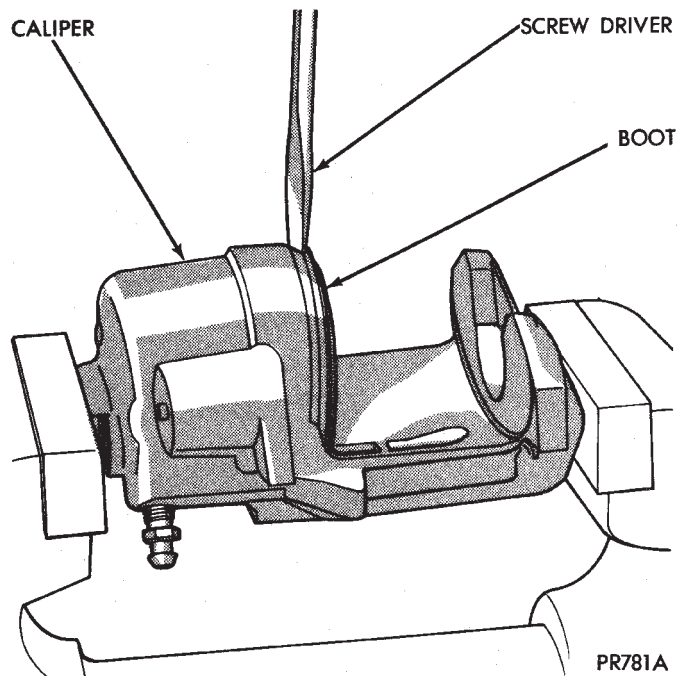

Fig. 182 Removing Caliper/Piston Dust Boot
(1) To disassemble the caliper, mount it in a vise equipped with protective jaws.
(2) Remove the piston dust boot from the caliper and discard (Fig. 182).